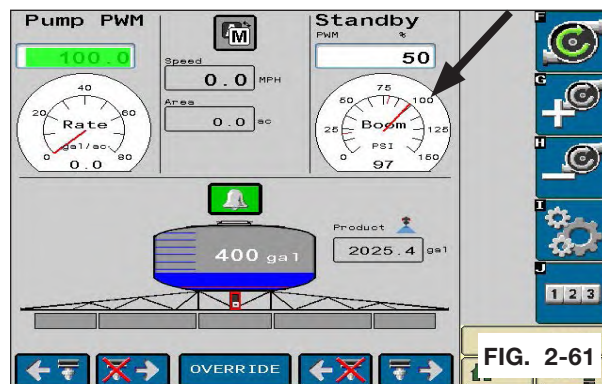

FIG. 2-61
1. Pull down wires located behind the command center on the frame rail. (FIG. 2-61)